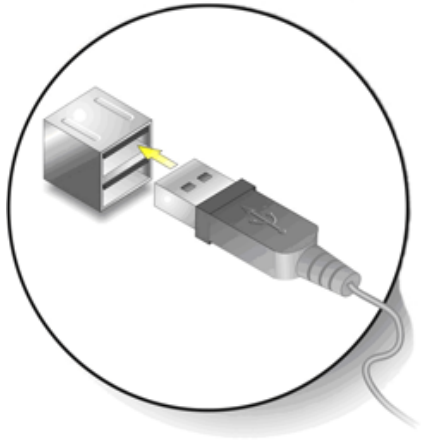

Figure 5-15: USB Connector
Step 2: Insert a USB Series "A" plug. Insert the USB Series "A" plug of a device into the USB Series "A" receptacle on the external peripheral interface. See **Figure 5-15**.